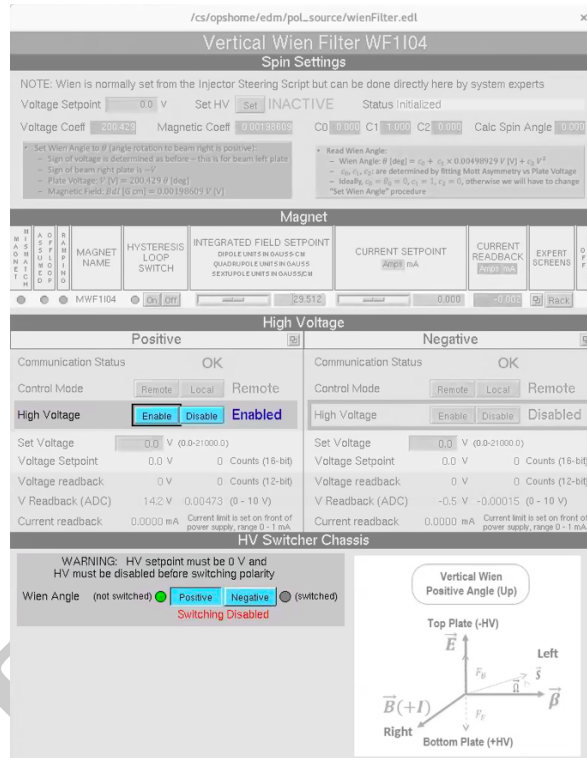

Figure 6: Wien filter expert screen with one of the HV supplies enabled, preventing the user from switching the polarity. Irrelevant areas are desaturated.
4. Click HV enable in both Positive and Negative. A warning in red letters will be displayed: “Switching Disabled”, see Fig. 6.